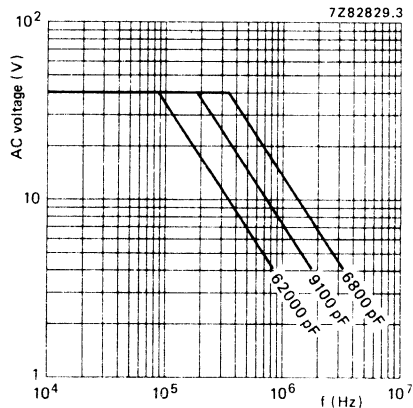

Fig. 4 Maximum AC voltage (RMS value) as a function of frequency at $T_{amb} \leq 70 \text{ }^\circ\text{C}$, for $U_R = 63 \text{ V}$.
* At $T_{amb} \leq 70 \text{ }^\circ\text{C}$ the maximum permissible sinusoidal voltage can be found in Figs 4, 5, 6, 7 and 8.